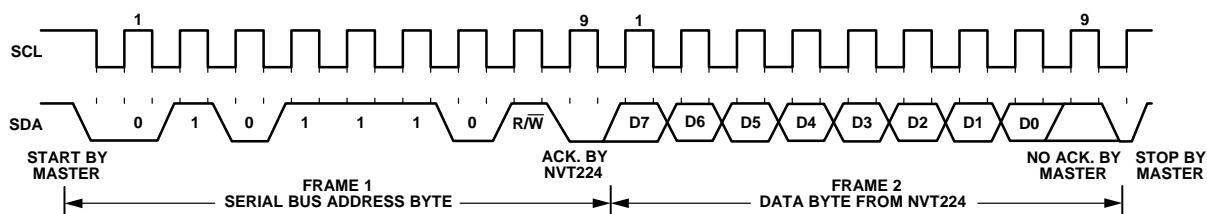

Figure 15. Reading Data from a Previously Selected Register
- A read operation is then performed consisting of the serial bus address; the R/W bit set to 1, followed by the data byte read from the data register see Figure 15.
- If the address pointer register is known to be already at the desired address, data can be read from the corresponding data register without first writing to the address pointer register see Figure 15.